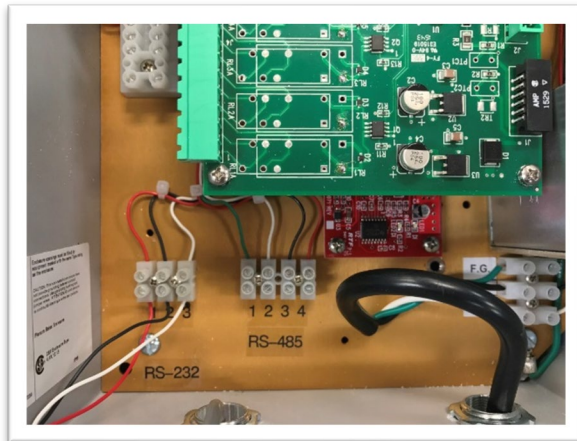
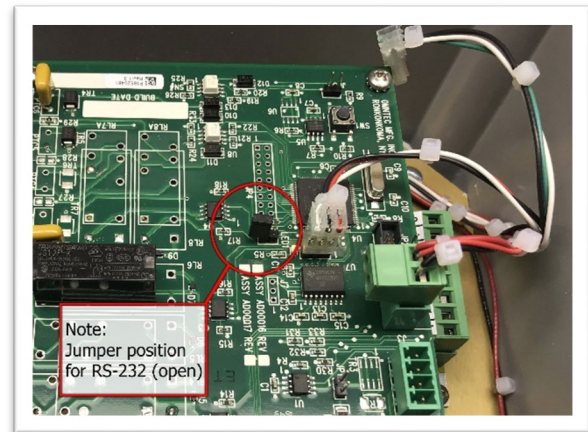

Figure 5.1
Figure 5.2
The RS-485 wire (green, black, white) is connected to J6 of the main board of the DDL. Swapping this cable for the RS-232 cable (white, black, red) will change the configuration to RS-232. Change the jumper setting on J4 (see Figure 5.2). The RS-232 pinout on the bottom left of the enclosure is as follows (see Figure 5.1):
**\*\* Check jumper setting on J4 (see Fig. 5.2). \*\***